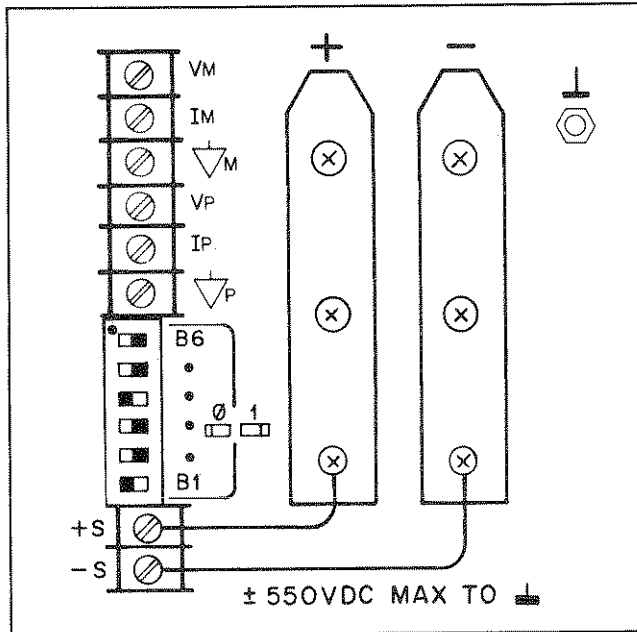

Figure 3-2. MODE-Switch Settings for Front-Panel Control
- a. Check that the rear-panel, MODE switch settings are as shown in Figure 3-2.
**3-21** Settings of the rear-panel MODE switch determine the operating modes of the unit. The Normal Operating Mode is with the unit set up for sensing of output voltage directly at the output terminals—local sensing—and set up for operation using the front-panel controls—local programming. Figure 3-2 shows the MODE switch settings for the normal operating mode. Other operating modes covered in this section are remote voltage sensing, remote programming of output voltage and current using external voltages or resistances, and multiple supply operation in auto-parallel, auto-series, and auto-tracking operating modes.
3-24 The unit is shipped from the factory configured in the normal operating mode—local sensing and programming. Besides jumpers between output and sense terminals, normal operating mode requires the MODE switch settings shown in Figure 3-2.